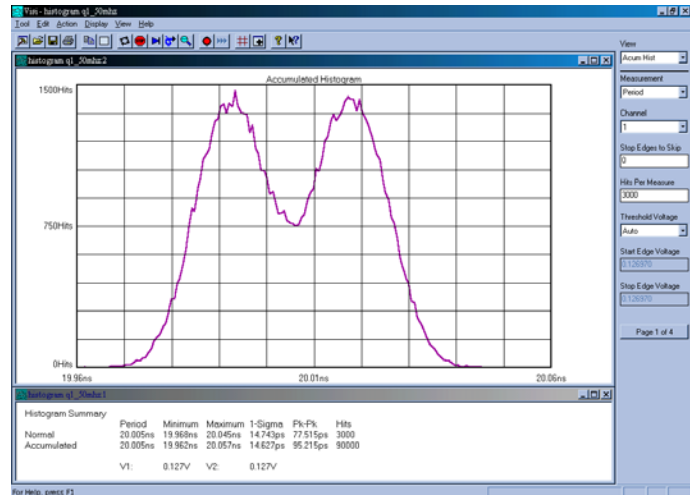
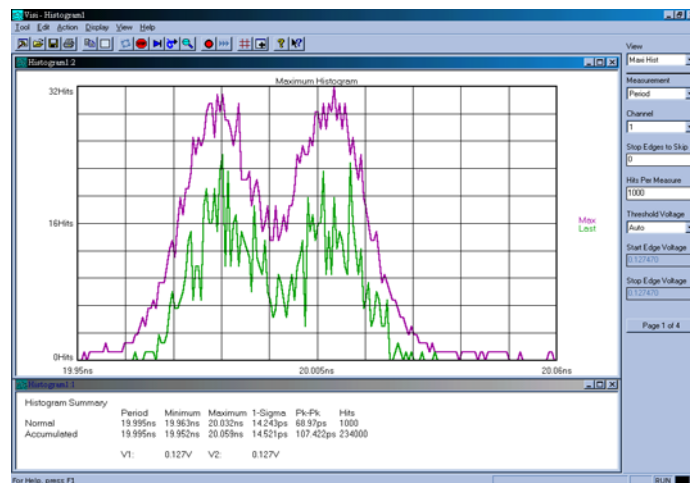
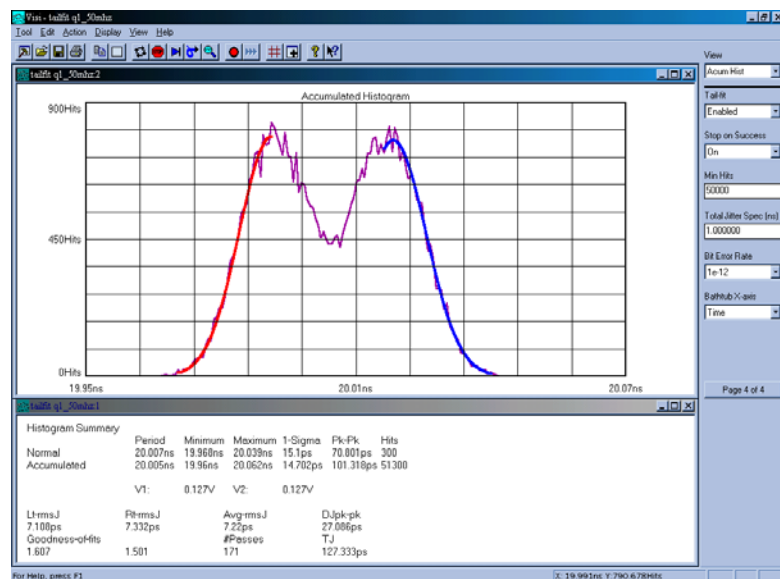

Figure 2 - Histogram without TailFit
Figure 3 - Histogram using Max View
Figure 5 - Histogram with TailFit enabled
If the histogram distribution is Multimodal as in Figure 2, the 1-sigma value doesn't accurately reflect the Random component of jitter. This is because the cause of a non-Gaussian distribution is Deterministic. Therefore, in the presence of DJ, the 1σ value cannot be used as the true RJ value.
The Histogram tool produces four different views: Accum, Max, Bathtub and Summary. The “Accum” view (see Figure 2) puts all measurements from multiple acquisitions into one histogram. The “Max” view (see Figure 3.) is useful to see low frequency or low probability events as outliers. Rather than auto-scaling all measurements into one histogram the most recent histogram is shown in addition to the maximum extents of all previous histograms. Period drift or wander can be seen in this view.
Both Figures 3 and 5 have about the same 1-sigma and Pk-Pk values, but Figure 5 separates the jitter into its individual components. A DJ value is now displayed in the statistics window. RJ is displayed as Left-side (Lt-rmsJ), Right-side (Rt-rmsJ), and Average (Avg-rmsJ) which can be used if the left and right RJ's are different. Note that the 1-sigma value is larger than the Avg-rmsJ which represents the true random component. A Total Jitter (TJ) value is now present in the statistics window; it is derived from the bathtub curve below.
1) The lines on this plot are inversely proportional to the TailFit curves in Figure 5. Here, the left line corresponds to the right TailFit, and the right line corresponds to the left TailFit.